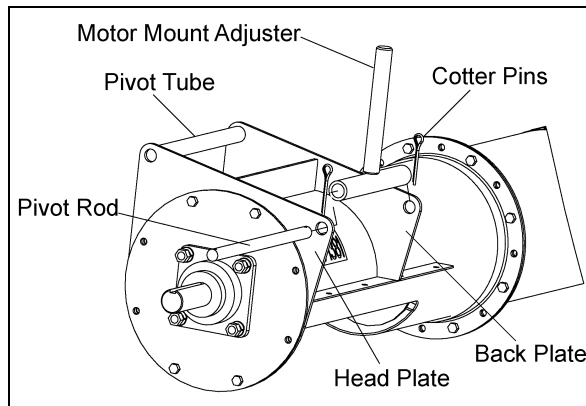

Figure 4J
- B. Insert Pivot Rod through the Tube plates and Motor Mount Adjuster. Secure in place with two (2) 3/16" x 2" cotter pins. (See Figure 4J)